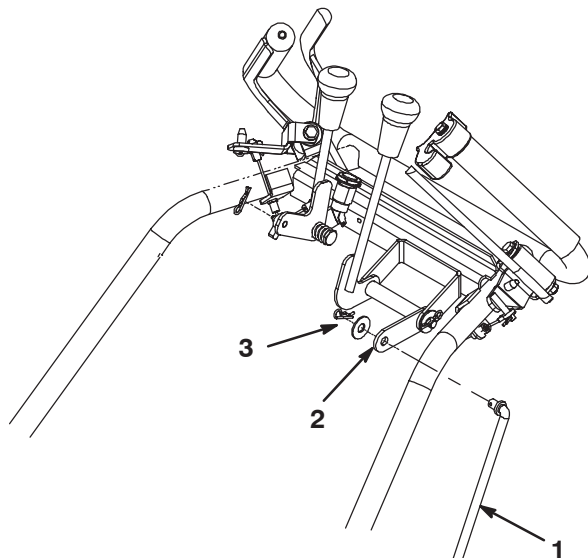

Figure 4
5. Insert the upper end of the shift rod into the hole in the shift linkage (Fig. 4). Secure the rod end to the linkage with the washer and hairpin cotter previously removed.